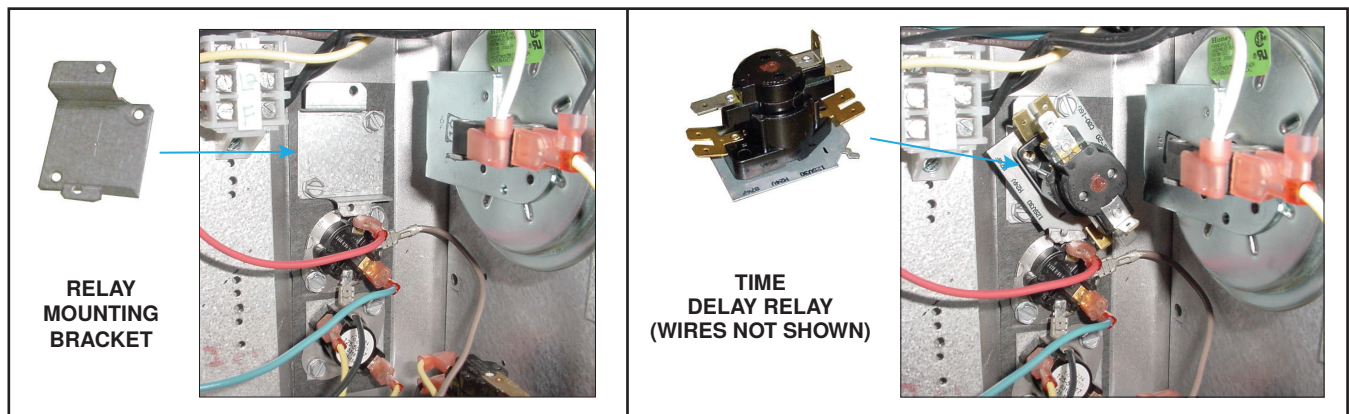

Figure 23. Replacement Time Delay Relay Assembly
5. Install replacement time delay relay (see Figure 23):